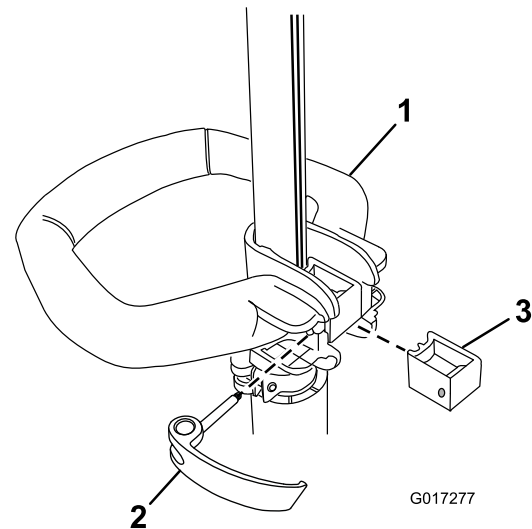

Figure 4
1. Position the auxiliary handle on the shaft of the trimmer with the smooth surface facing the operator (Figure 4).
2. Slide the brace into the auxiliary handle so that the brace rests in the groove along the shaft (Figure 4).
3. Slide the latch from the left through the handle and brace as shown, and tighten the latch screw with a Phillips screwdriver (Figure 4).